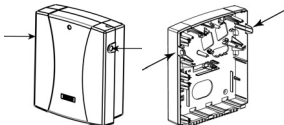
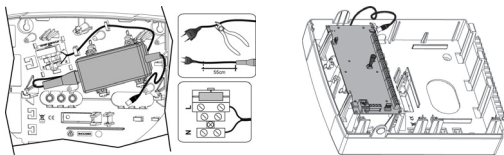

Figure 5-1: Box clip release
Figure 6-1: AC adapter and circuit board placement
1. Separate the sub-assemblies by pressing the circular locking plastic brackets on either side to release the front cover, see Figure 5-1 below.
The 2-Way Wireless I/O Expander Module is powered by an AC/DC Adaptor 100-240V, 50/60Hz/14.4V,1.5A. Connection to AC power supply must be permanent and connect through the mains-fuse terminal block (see Figure 6-1, below).
1. Connect the AC adapter to the main fuse terminal block as shown in Figure 6-1.
2. Reinstall the circuit board and connect the power source plug to the power input jack on the circuit board, see Figure 3-1 and Figure 6-1.
2. Connect the 2-Way Wireless I/O Expander Module to the AC mains power, see Figure 6-1.
3. Open the plastic unit (see Figure 5-1 and Figure 6-1) and disconnect the main AC power.